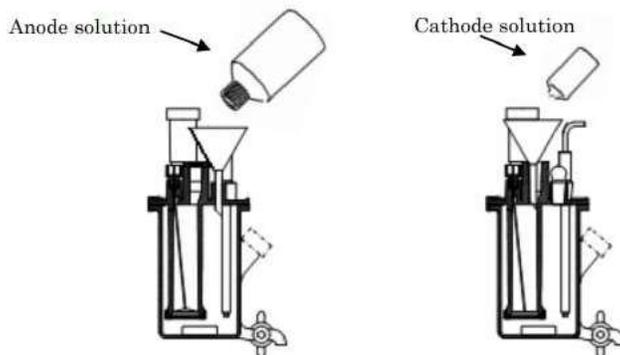
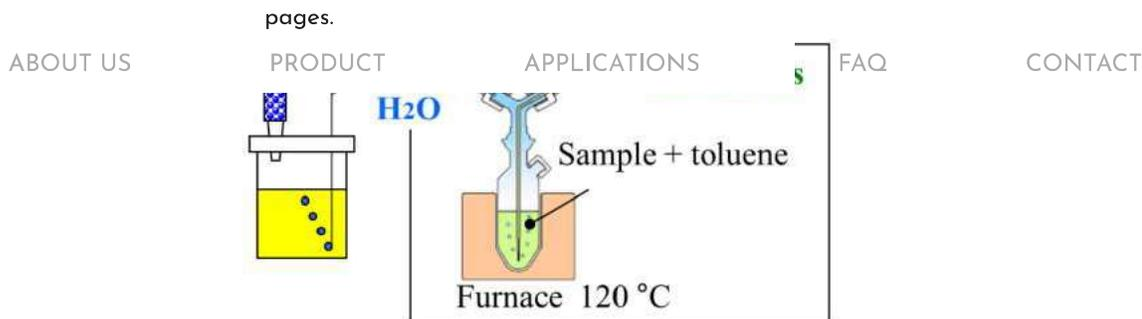
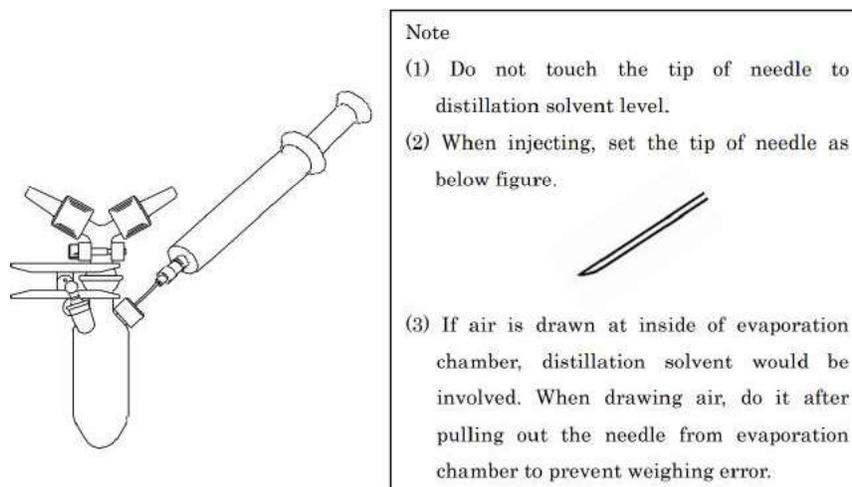

Fig.3.1. Preparation of the reagents.
Fig.3.3. Schematic diagram of azeotropic distillation method.
Fig.3.4. Sample injection into evaporation chamber.
as shown in Fig.3.1.
(1) Fill 100 mL of anode solution and one ampoule of cathode solution into the electrolytic cell as shown in Fig.3.1.
(2) Start blanking to attain stable background.
(3) Connect electrolytic cell and evaporation chamber with tube. Flow carrier gas with 50 mL/min.
(4) Fill 5mL of distillation solvent in evaporation chamber and heat the chamber at 120 °C.
(5) Keep blanking to attain stable background with carrier gas flowing into electrolytic cell.
(6) Wash the syringe with sample.
(7) Draw the sample into syringe and then weigh the syringe.
(8) Inject sample from rubber septum of distillation chamber as shown in Fig.3.3 and Fig.3.4.
(9) Start titration. Measurement parameter is shown in Table 4.2.
(10) Weigh the syringe again and then set the difference of weight to sample size.